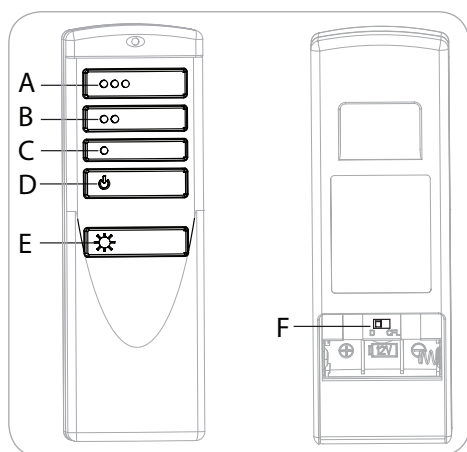

Figure 6.1
- F - D/CFL Switch: Located inside the battery compartment in remote transmitter. Button must remain in the "D" position at all times for this item. (Figure 6.1).